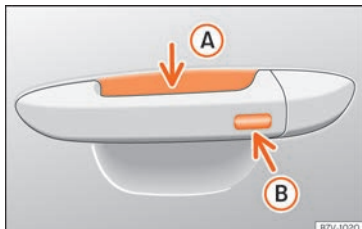

Fig. 142 Driver door lever: sensor surfaces.
- Press and hold the locking sensor surface **»» Fig. 142 (B)** on the door handle to close the sunroof. If you release the sensor surface, the closing movement stops.